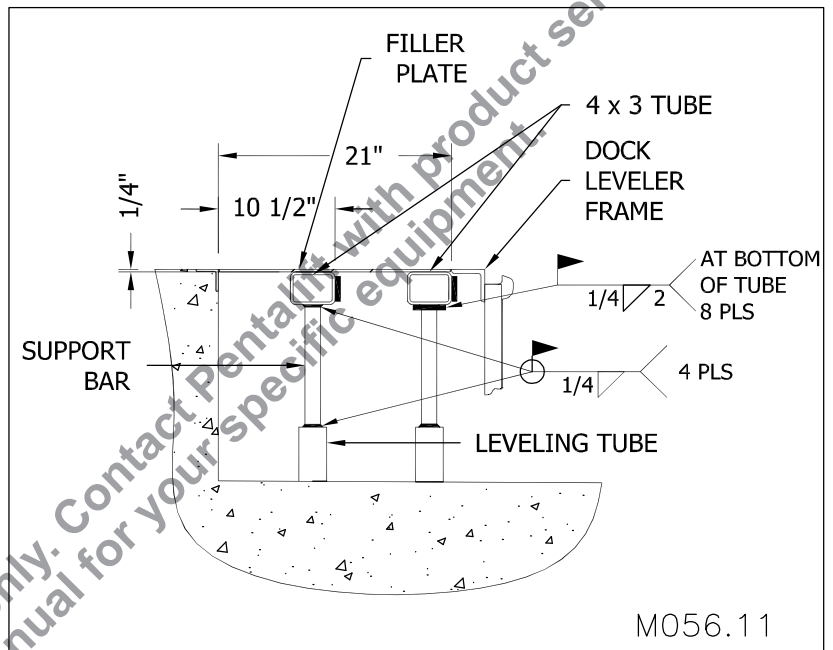

Figure 29: Welding the 4 X 3 Rectangular Tubing to the Curb Angles
4. ___ Slip the levelling tubes over the support bars and lightly tack in place so that it does not fall off while inverting the rectangular tube as indicated in "Figure 29: Welding the 4 X 3 Rectangular Tubing to the Curb Angles" on page 26.
5. ___ Position the 4 X 3 inch rectangular tubes as indicated in "Figure 29: Welding the 4 X 3 Rectangular Tubing to the Curb Angles" on page 26. Make sure the top surface of the rectangular tube is $\frac{1}{4}$ " below the top surface of the curb angle. This will allow the filler plate to be welded flush to the top surface of the curb angle.
6. ___ Weld the ends of the rectangular tubing to the side curb angle as indicated in "Figure 29: Welding the 4 X 3 Rectangular Tubing to the Curb Angles" on page 26. Add vertical welds at the ends of the tube between tube surface and side curb angle surface.
8. ___ Weld the levelling tubes to the support bars using full fillet welds as indicated in "Figure 29: Welding the 4 X 3 Rectangular Tubing to the Curb Angles" on page 26.